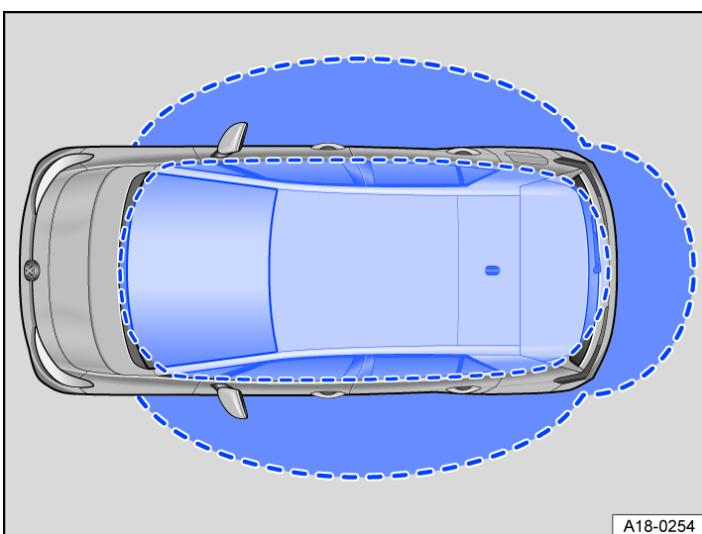

Fig. 2 Keyless Access: operating ranges.
- The vehicle is unlocked if the vehicle key is detected within the operating range → *Fig. 2*. All turn signals flash *twice*.